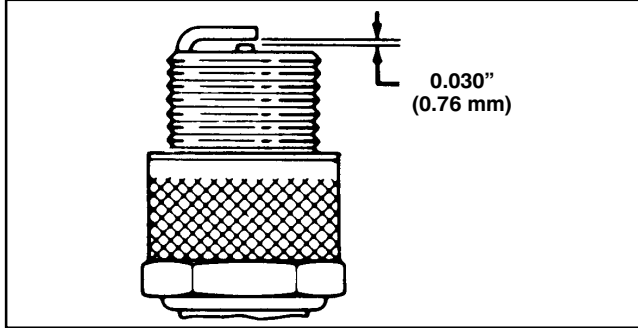

Figure 12
3. Set air gap at 0.030" (0.76 mm) (Fig. 12). Install correctly gapped spark plug and gasket seal. Tighten plug firmly to 15 ft–lb (20 N·m).